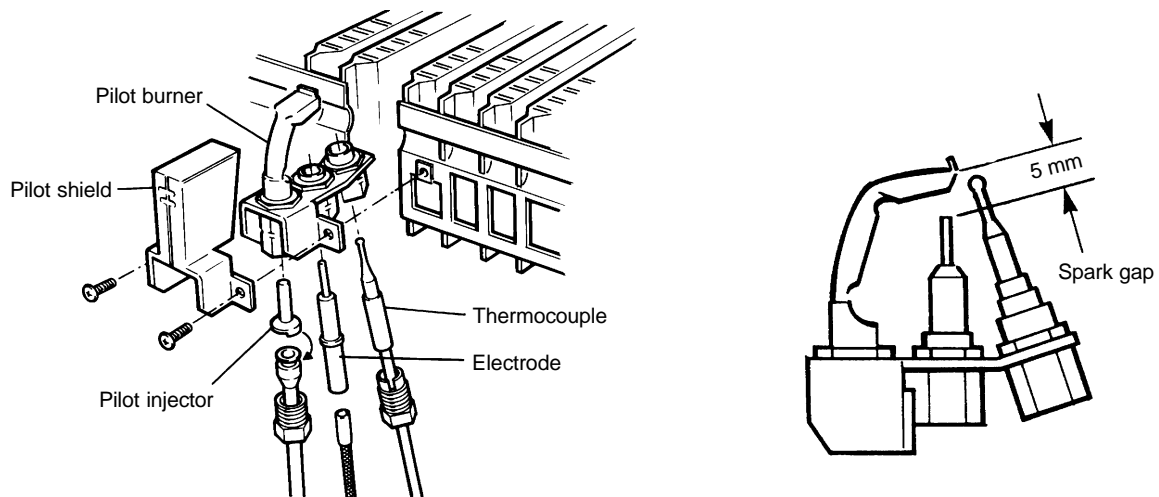

Fig. 19
9. Check the spark gap, positioning and height of the electrodes (see Figs. 19 and 20).
8.3 PILOT COMPONENTS (Alpha 240P and 280P only) - Fig. 19
Disconnect the lead from the electrode, unscrew the nut and withdraw the electrode. It will be necessary to remove the thermocouple first. Fit the new electrode and check the spark gap (see Fig. 19).
Disconnect the pilot supply and remove the injector. Fit the new injector over the pilot supply as shown in Fig. 19, and reconnect it to the pilot burner.